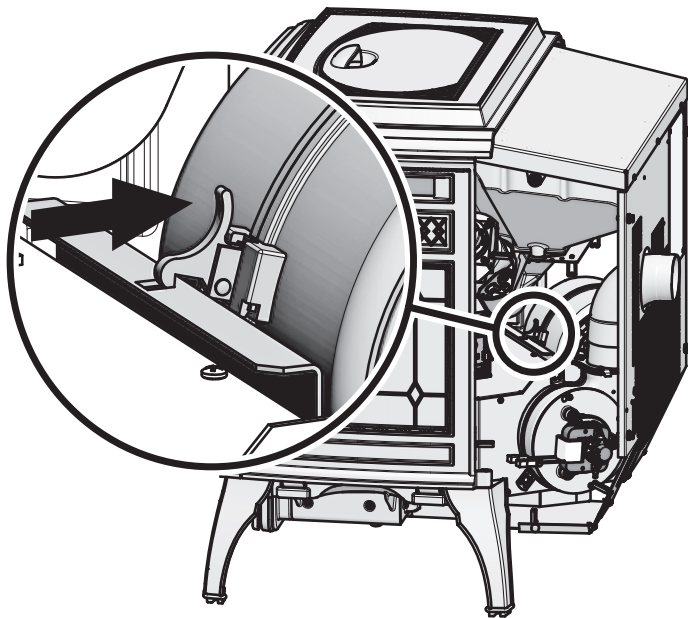

Figure 27.1
2. Remove the left side panel by loosening the 2 screws using a Phillips head screw driver or wrench (**Figure 27.1**).
5. Reach behind the blower and release the latch by pushing the top of the latch towards the blower (**Figure 27.1**).
8. When the blower is properly positioned the latch will engage the notch to hold the blower in place (**Figure 27.1**).